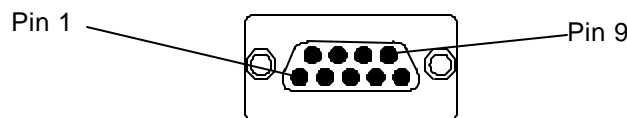

Figure 2.8 – RS-232 Port
4. To ground the cable shield, connect to pin 3 as shown in Figure 2.8.